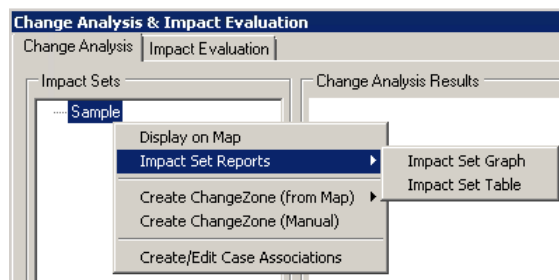

Figure 8-6 Impact Set Reports Options
3. Right-click the *Impact Set*, select *Impact Set Reports*, then select *Impact Set Graph* or *Impact Set Table* (Figure 8-6).